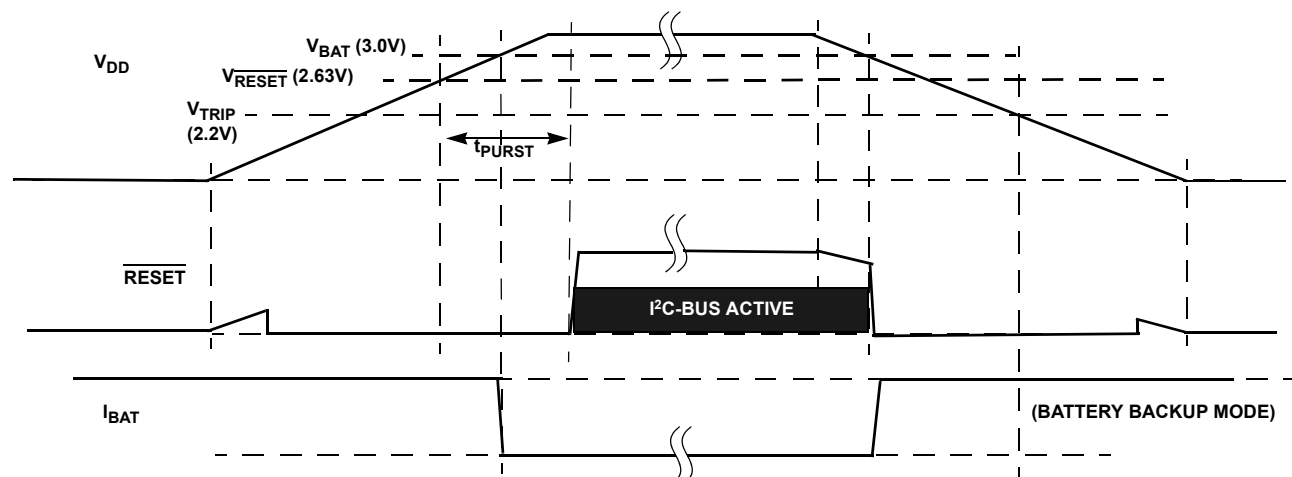

FIGURE 30. RESET OPERATION IN MODE D
- Mode D - In this mode, the selection bits indicate switchover to battery backup at $V_{DD} < V_{BAT}$, and no I²C communications in battery backup. This mode is unique in that there is I²C communication as long as V_{DD} is higher than $\overline{V_{RESET}}$ or V_{BAT} , whichever is greater. This mode is the safest for guaranteeing I²C communications only when there is a Valid V_{DD} (see Figure 30).